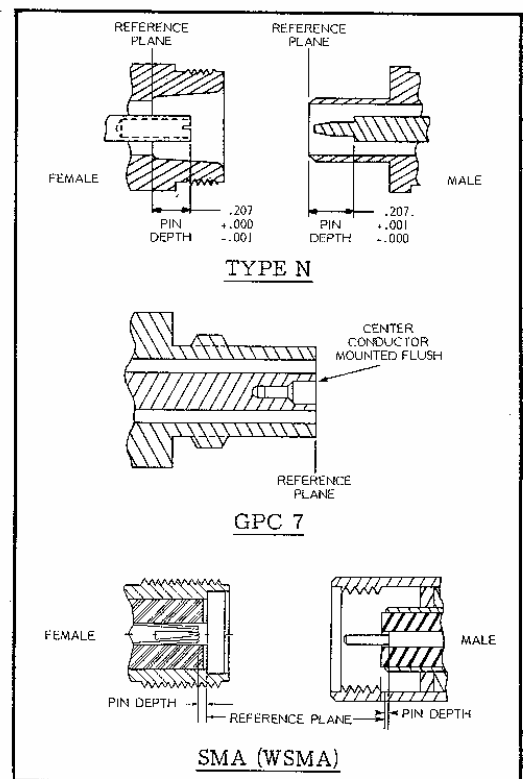

Figure 1-3. Connector Pin Depth
- a. Beware of Destructive Pin Depths on Mating Connectors.¹ Measure the pin depth (Figure 1-3) of the test device connector before mating it with the bridge or SWR Autotester test port connector. Based on bridges and SWR Autotesters returned for repair, destructive pin depths on mating connectors are the chief cause of failure in the field. When any bridge or SWR Autotester connector — especially the test port connector — is mated with a connector having a destructive pin depth, the bridge or SWR Autotester connector will probably be damaged. (A destructive pin depth has a center pin that is too "long" in respect to the connector's reference plane.)